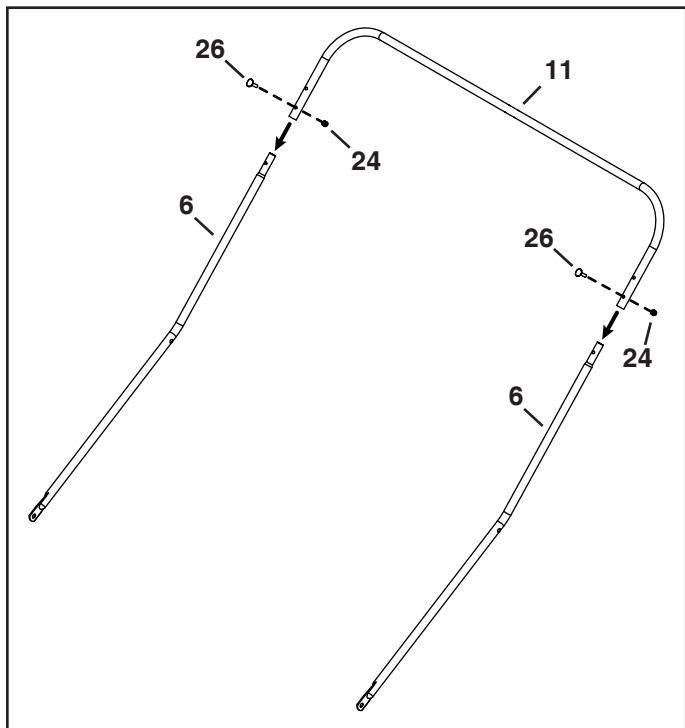

FIGURE 10
14. Slide a rear hopper tube (11) onto the two upper hopper tubes (6). See figure 10.
15. Secure the upper hopper tubes (6) to the rear hopper tube (11) using two 1/4" x 1" curved head bolts (26) and 1/4" nylock nuts (24). See figure 10.